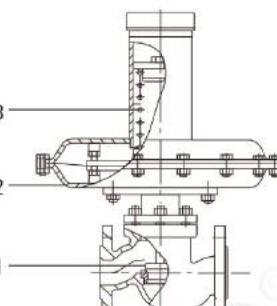

图2: 30W02-02泄氮装置
泄氮装置(见图2), 该装置采用内反馈结结构, 介质直接经阀盖进入检测机构(2), 介质在检测元件上产生一个作用力与预设弹簧(3)预紧力相平衡。当罐内压力升高至于泄氮装置压力设定点, 平衡被破坏, 使阀芯(1)上移, 打开阀门, 向外界泄放氮气; 当罐内压力降至泄氮装置压力设定点, 由于预设弹簧力作用, 关闭阀门。
The nitrogen discharge device (see figure 2) is an internal feedback mechanism. The medium enters the detection mechanism (2) after passing through the bonnet. The medium produces an acting force on the detection element, which balances the pre-tightening force of the spring (3). When the pressure in the tank rises to be higher than the pressure set point of the nitrogen discharge device, the balance is destroyed, so that the plug (1) moves upward to open the valve and discharge nitrogen to the outside. When the pressure in the tank falls to the pressure set point of the nitrogen discharge device, the valve is closed by the preset spring force.